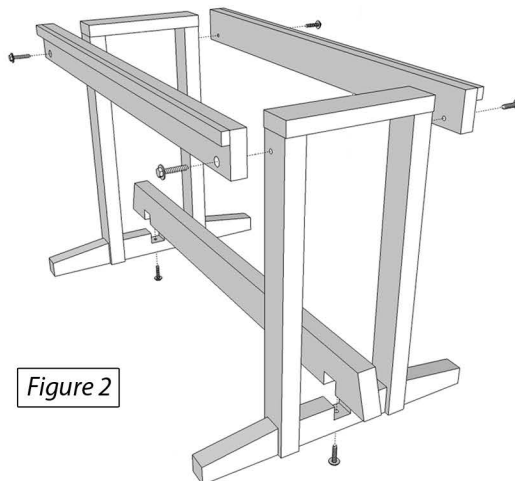

Figure 2
- 3) Attach the 2 Slide Stretchers to each Leg Assembly level with the top with the other 4 - **2" Lag Bolts**. See *Figure 2* for alignment.